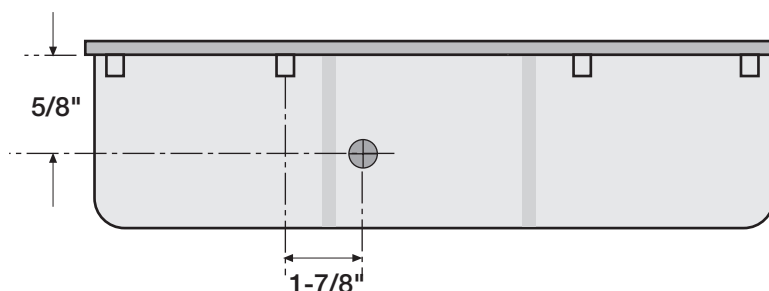

Fig: 2-a / Front of Oil Pan
- A. To provide an oil drain for the supercharger, it is necessary to make a hole in the oil pan. Locate and mark hole per diagram. (See Fig. 2-a.) The drain hole must be punched rather than drilled.